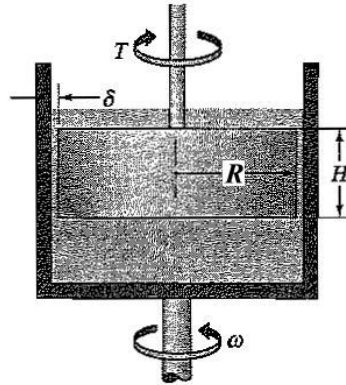

Figure P1.28
1.28 The viscosity of a Newtonian liquid can be estimated using the instrument shown in Figure P1.28. The outer cylinder rotates at an angular speed ω . If the torque (dimensions of force times length) required to keep the inner cylinder stationary is T , and the velocity distribution in the gap is linear, find an expression for the viscosity μ in terms of T , ω , H , δ , and R .